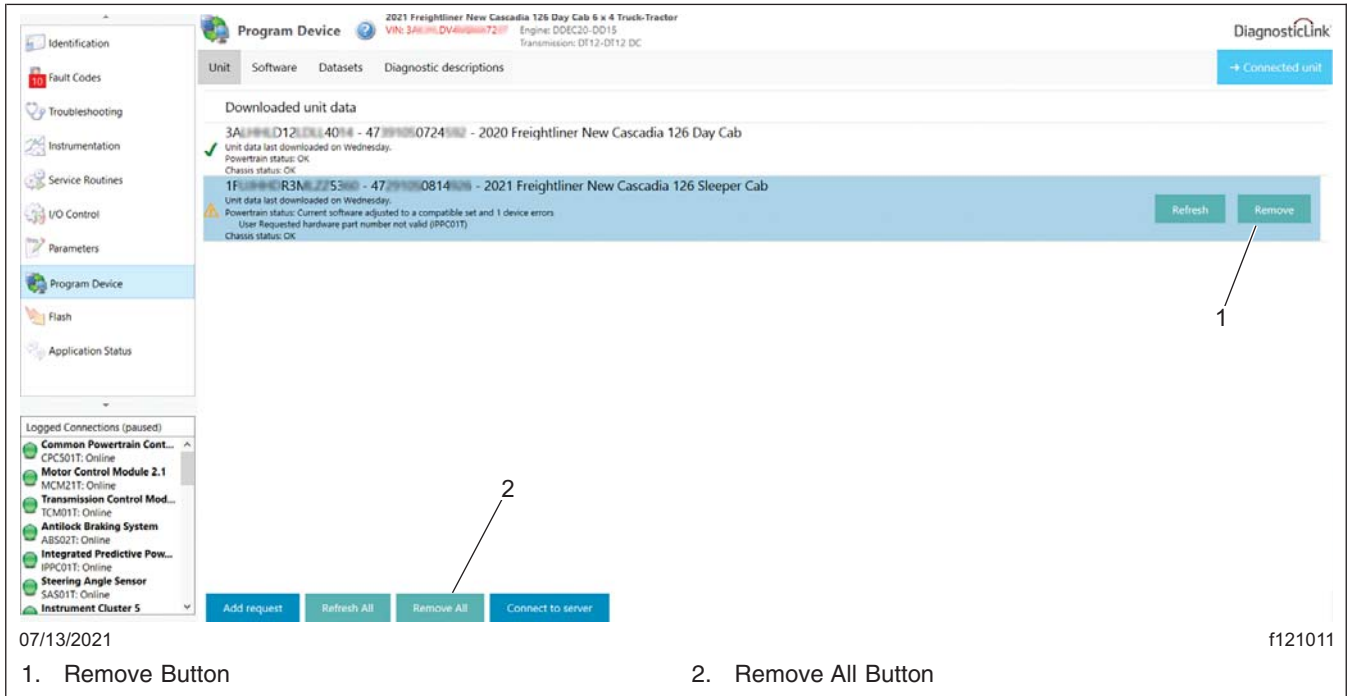

Fig. 4, Removing the VINs
- Go to 'Program Device,' and make sure that the vehicle identification number (VIN) that appears is correct. If not, remove each VIN by selecting the 'Remove' button located at the far right-hand side of that VIN. To remove all the VINs at once, select the 'Remove All' button at the bottom of the screen. See Fig. 4.